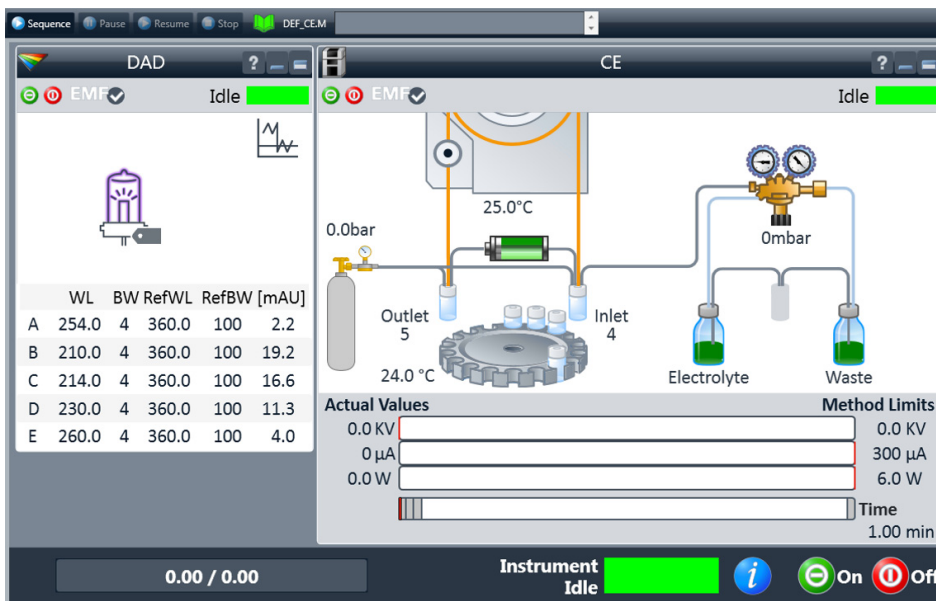

Figure 43 CE diagram with CE+p mode activated
- 9** Once the external pressure is configured a new icon for an external pressure reservoir will appear, see Figure 43.
High pressure may be applied independently of the method for capillary conditioning or cleaning by clicking right at the external pressure icon in the CE diagram (see Figure 43 on page 163). This will cause a parameter setting field to appear (see Figure 45 on page 166). From this field you may choose to apply pressure to the inlet, outlet or both vials, and also whether to simultaneously apply a voltage of -30 to 30 kV for a given time.